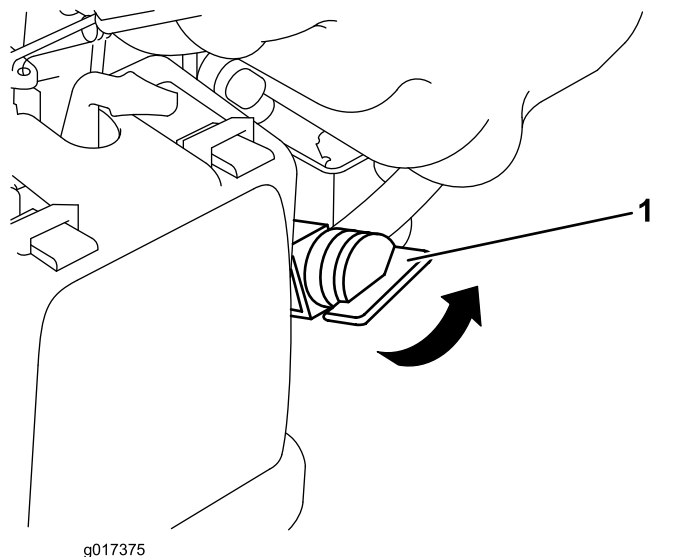

Figure 12
2. Turn the fuel valve to the ON position (Figure 12).